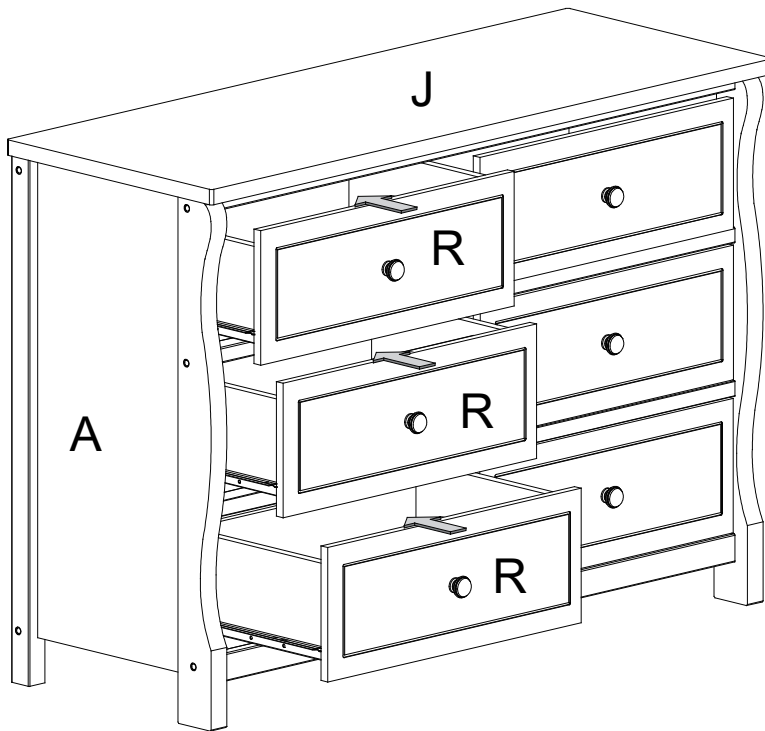

Figure 6
- ⑦ Assembly the drawers as Figure 6.